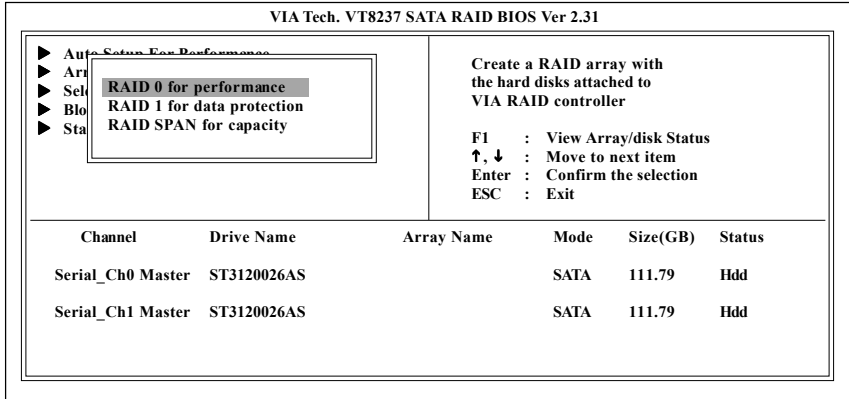

Figure 6
4. Then you will see a menu for you to select the RAID type (Figure 6) . Use arrow keys to select RAID 0 for performance and press <Enter>.